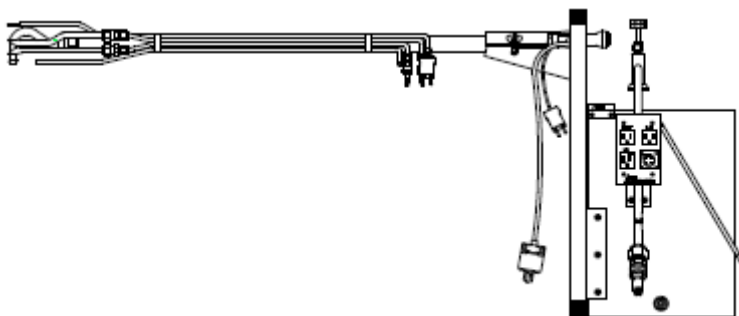

Figure 28 - Set-up of Cold Box with Sample Frame and Probe Clamp
- The Basic Method 4 Test Kit includes a Cold Box, Sample Frame with Probe Clamp (SB8), and Umbilical Adapter with power connector (GA-103), as shown in Figure 28. Either a standard heated Probe Assembly or a heated CEM probe (no Pitot tube) can be used.